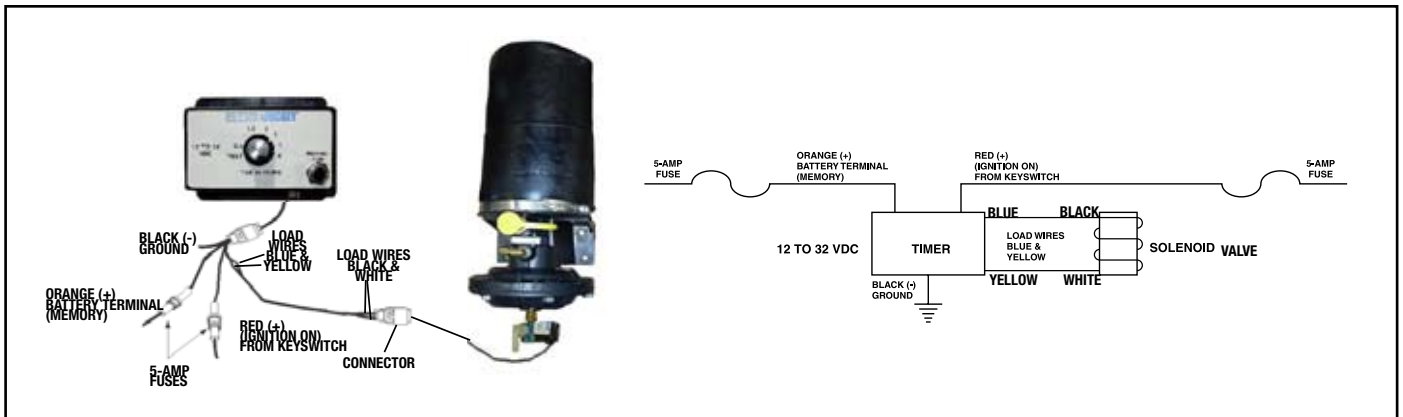

Figure 12 Negative Ground System
NOTE: Timer must be installed horizontally as shown in figure 12 with cable leads pointing down.
- a. Connect the BLUE and YELLOW leads to the wires from the pump mounted solenoid. (See schematic Fig. 12).